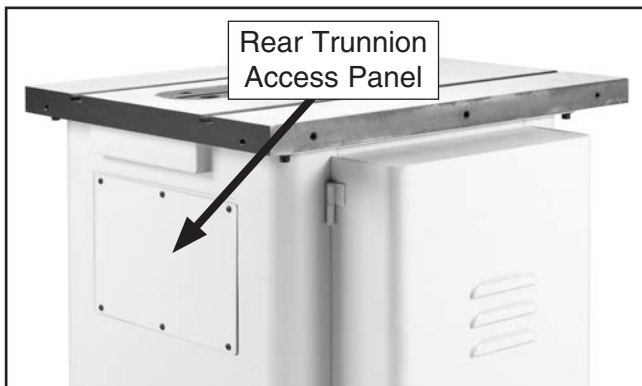

Figure 105. Rear trunnion access panel.
6. Remove the six button head cap screws that secure the rear trunnion access panel (see **Figure 105**), remove the panel, and open the door cabinet to access the trunnions.